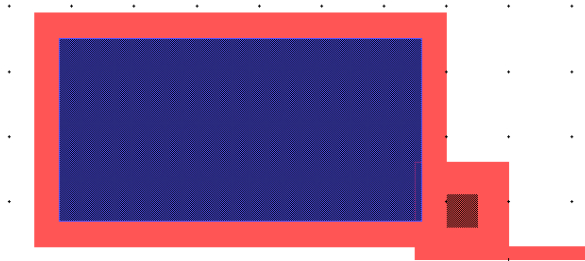

Figure 148: Creating Temperature BC Tag.
- ☑ Draw another box on the "myBCLayer" layer, similar in size and location to the first one, as shown in (Figure 148).